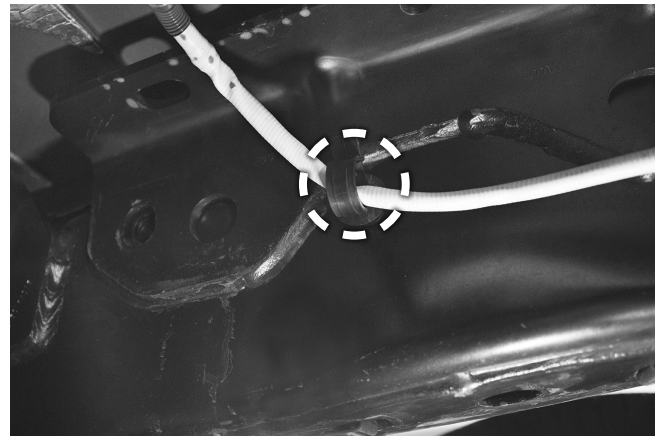

Fig. 29
- To install the passenger's (right) side upper brace (F), locate the clip (circled in Fig. 29) that holds the wiring harness for the O2 sensor. Remove and discard the clip, as it will no longer be needed.